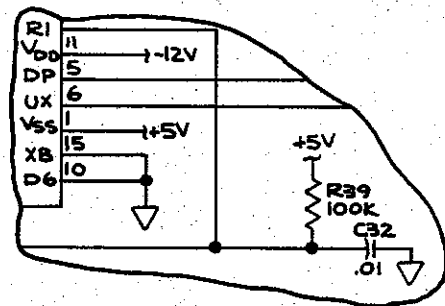

FIGURE 4
- CHANGE: R39, 10k TO: R39, 100k, see Figure 4
C32, 10 μ F TO: C32, .01 μ F, see Figure 4